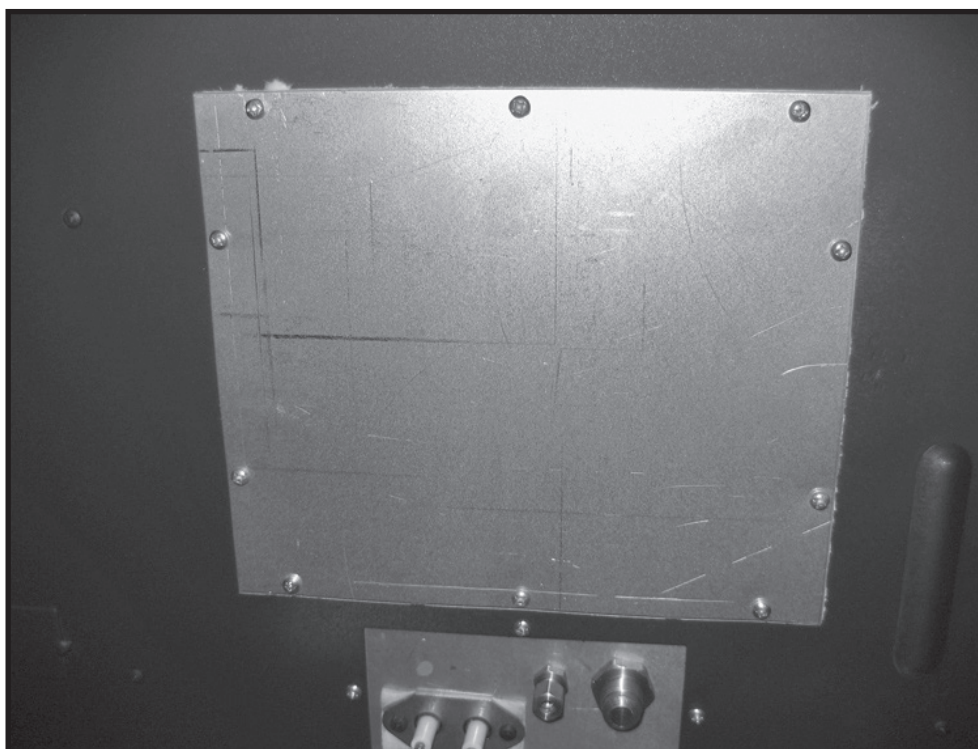

Figure 8: Re-install access cover to valve control center.
7. Reinstall the valve control center access panel (Figure 8).